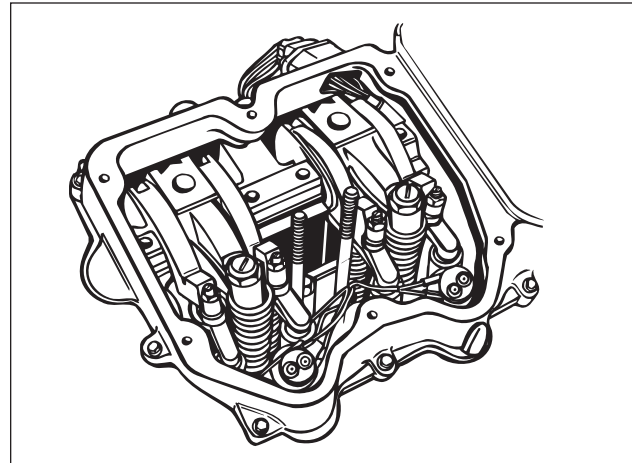

FIG. 5
3. Using a stud driver, install the front mounting stud into the cylinder head. (See Table 2 above for stud configurations). The stud is installed between the exhaust and intake valves on the exhaust manifold side of engine (see to Fig. 5). Torque to 65 lb.-ft. (88 N•m).